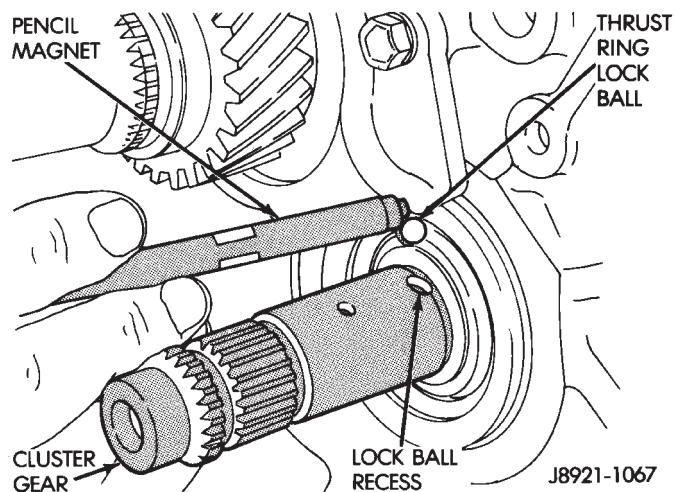

Fig. 97 Installing Thrust Ring Lock Ball
(1) Install thrust ring lock ball in cluster gear journal (Fig. 97). Use petroleum jelly to hold ball in place.